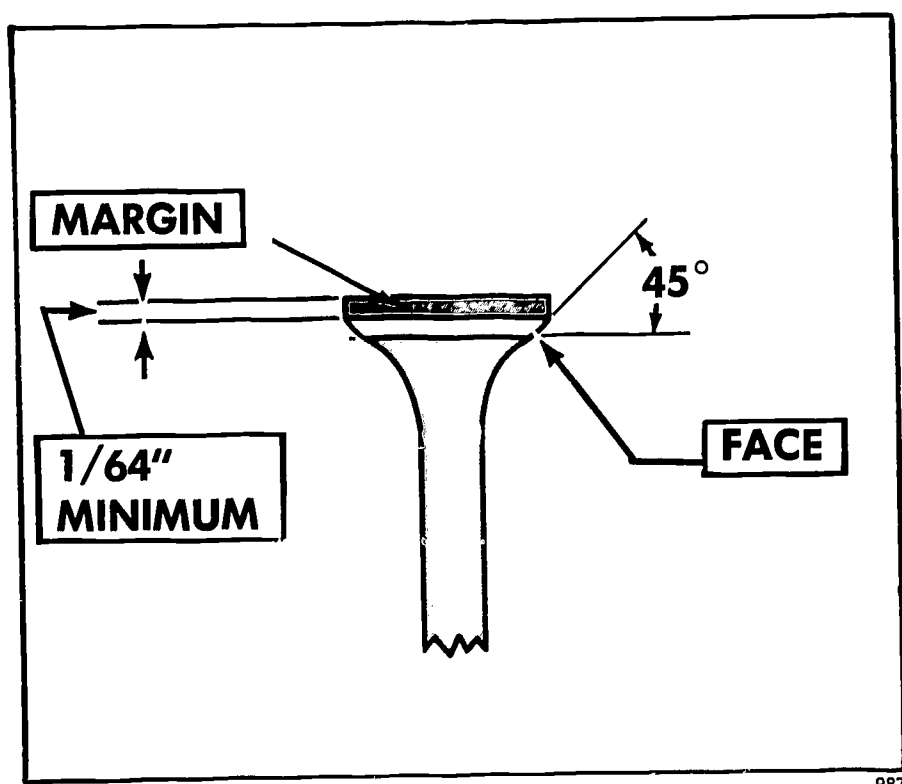

FIGURE 205. Typical specifications for grinding a valve.
2. *Adjust the valve grinder for grinding the proper face angle (Figure 205).*
9. *Check the valve face width (Figure 205).*
You may not be able to grind the valve face adequately before grinding the margin too thin. If the margin (Figure 205) is less than $1/64''$, or less than $1/2$ the thickness of a new valve margin, discard the valve.